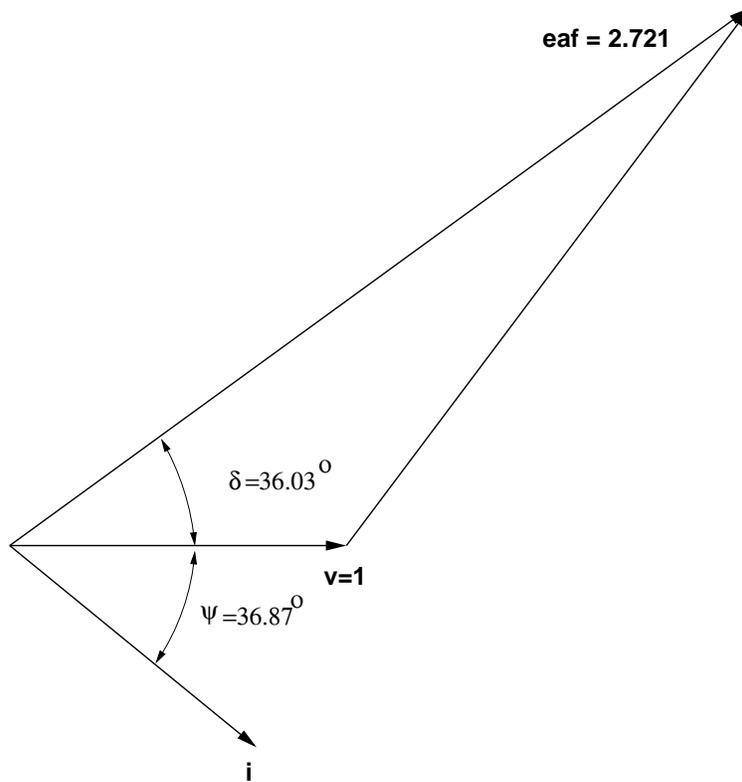

Figure 1: Voltage Vector Diagram of part a
**Problem 1: Chapter 9, Problem 5** The phasor diagram is shown in Figure 1.